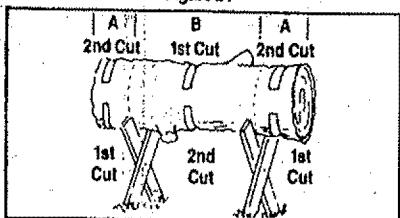

Figure 25
5. BUCKING — USING A STAND (Figure 25):